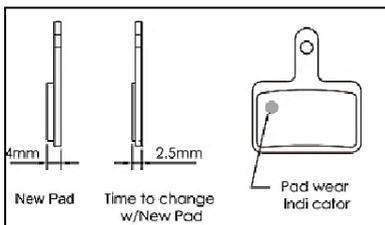

Fig. I-1 Identify worn brake pads
⚠CAUTION: Pad should be replaced when total thickness is less than 2.5mm (friction material & metal plate) or the pad wear indicator appearance. (**Fig. I-1**)
- Check brake pad thickness - total thickness is more than recommendation values (**Fig. I-1**).